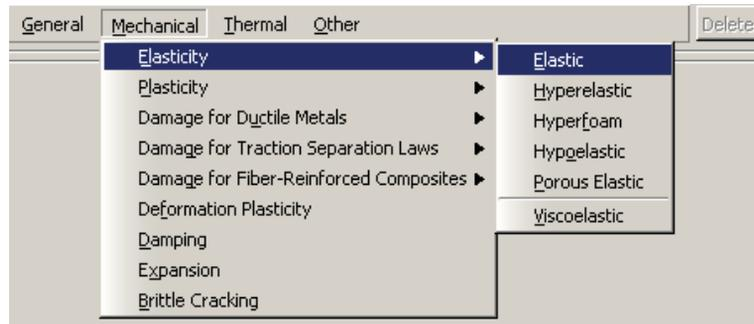

Figure B-7 Submenus available under the **Mechanical** menu.
2. Name the material **Steel1**. Use the menu bar under the browser area of the material editor to reveal menus containing all the available material options. Some of the menu items contain submenus; for example, Figure B-7 shows the options available under the **Mechanical**→**Elasticity** menu item. When you select a material option, the appropriate data entry form appears below the menu.